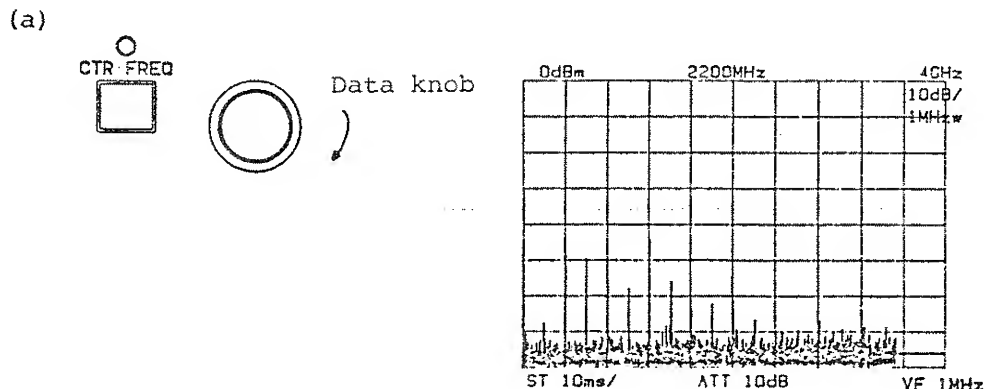

Figure 4-3 CF ADJ
- ④ Input an unknown frequency and read the frequency. (See Figure 4-3 (d).)